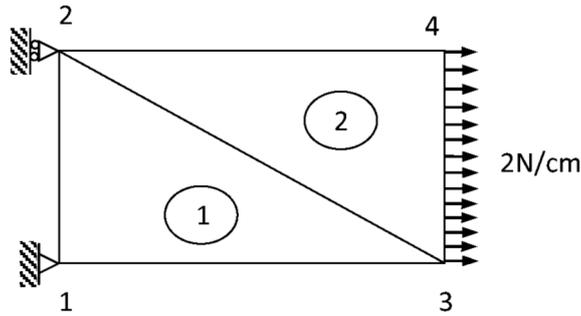

Figure Q5
- b) A steel plate of 4 mm thickness is subjected to in-plane loading of 2N/cm and supported by a pin and a roller support as shown in Figure Q5. Considering that the plate is consisting of two constant strain triangles,